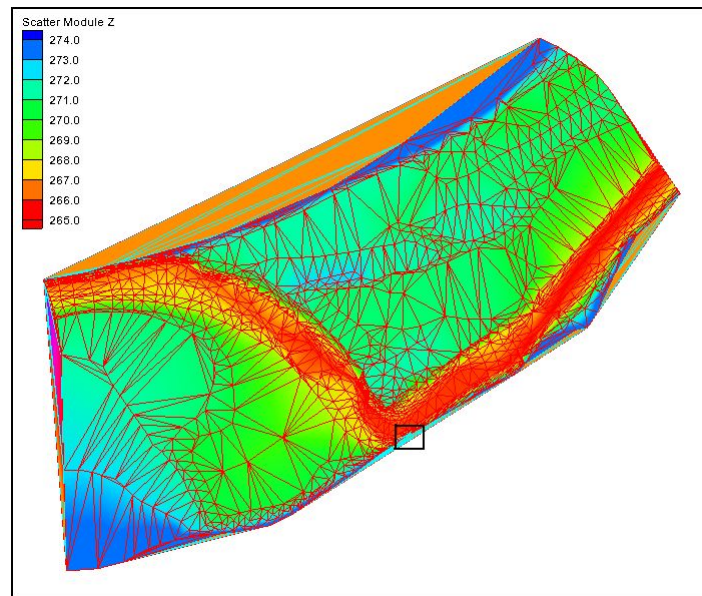

Figure 2 Zoom area
4. Zoom in to the bottom of the data set as shown in Figure 2.